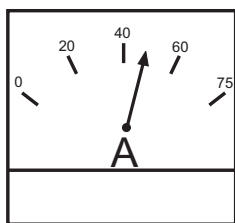

Figure 27. Ammeter (Load)
12. Observe the generator's ammeter (Figure 27) and verify that it reads the anticipated amount of current with respect to the load. Remember the ammeter will only display a current reading if the load is in use.